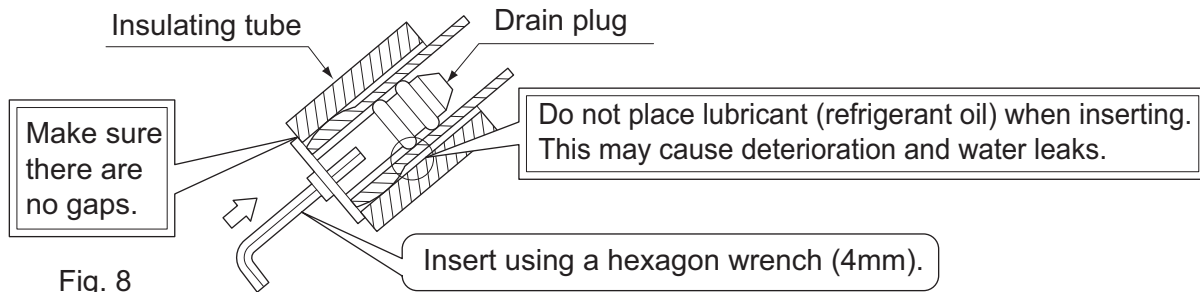

Fig. 8
- Remove the drain plug, the insulation tubing, and the drain hose from the drain pan and replace. (Refer to Fig. 8)
- Connect the local refrigerant piping ahead of time, matching it to the liquid pipe and gas pipe marks engraved on the installation plate (1).